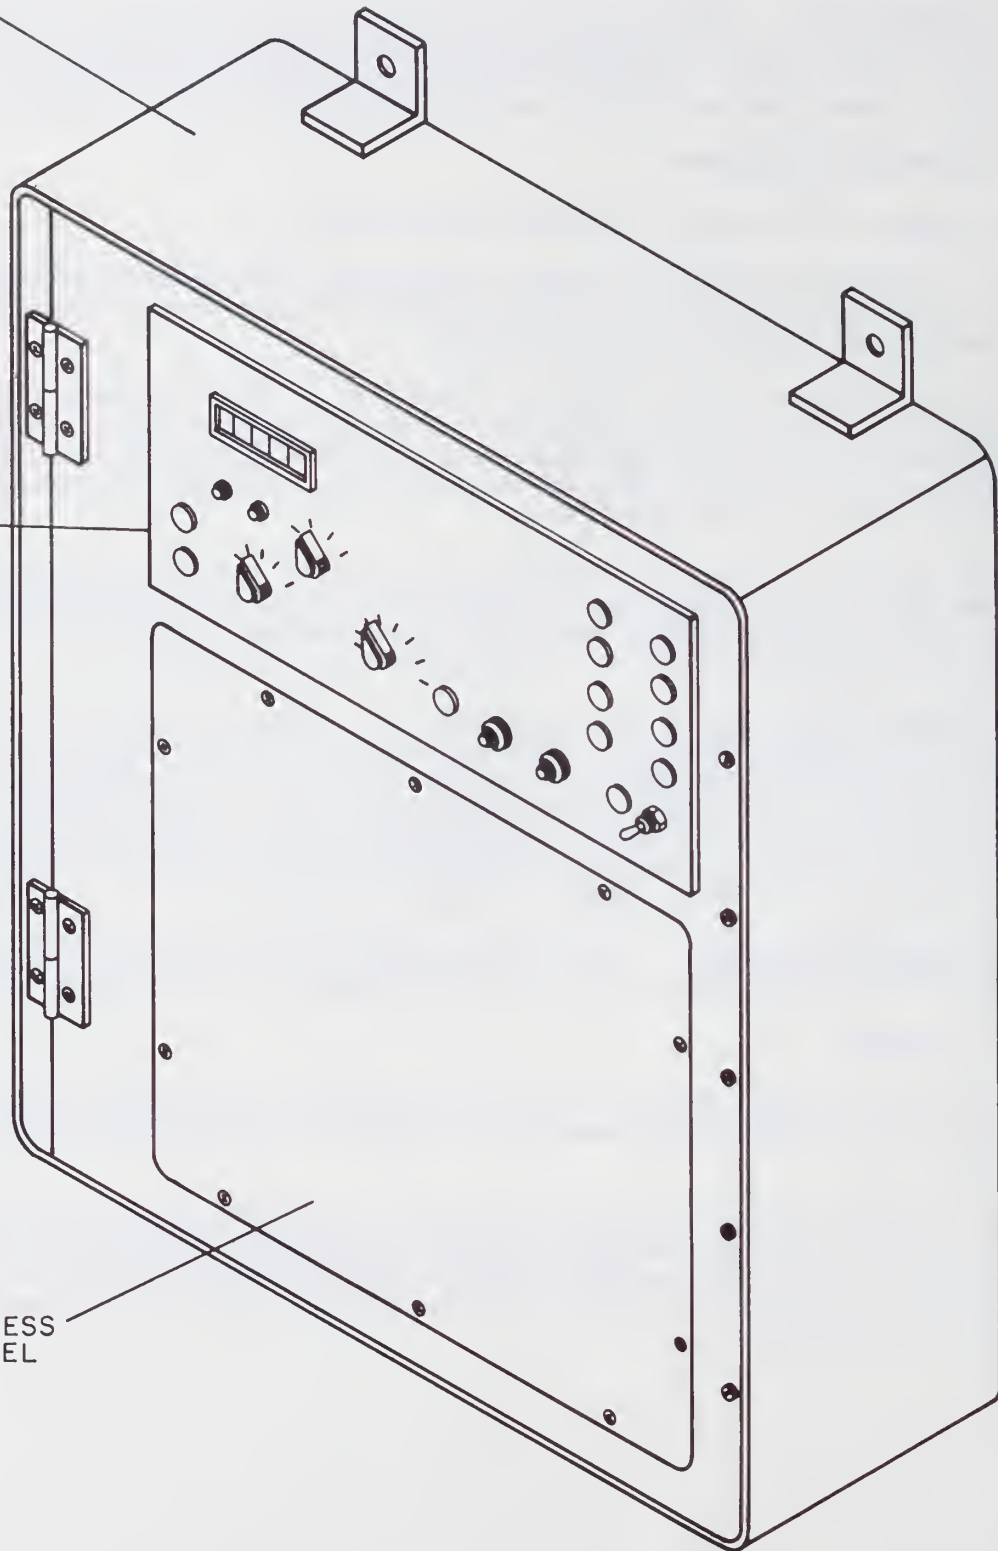

Figure 1-1. Isolation Distribution Equipment
**1.1 INTRODUCTION.** — The purpose of this information book is to provide all data needed to properly operate, maintain, and repair the Isolation Distribution Equipment (see figure 1-1) (hereinafter referred to as IDE). The IDE is part of the Radar Remote Weather Display System (RRWDS). For complete coverage, this instruction book must be used in conjunction with the RRWDS instruction books.